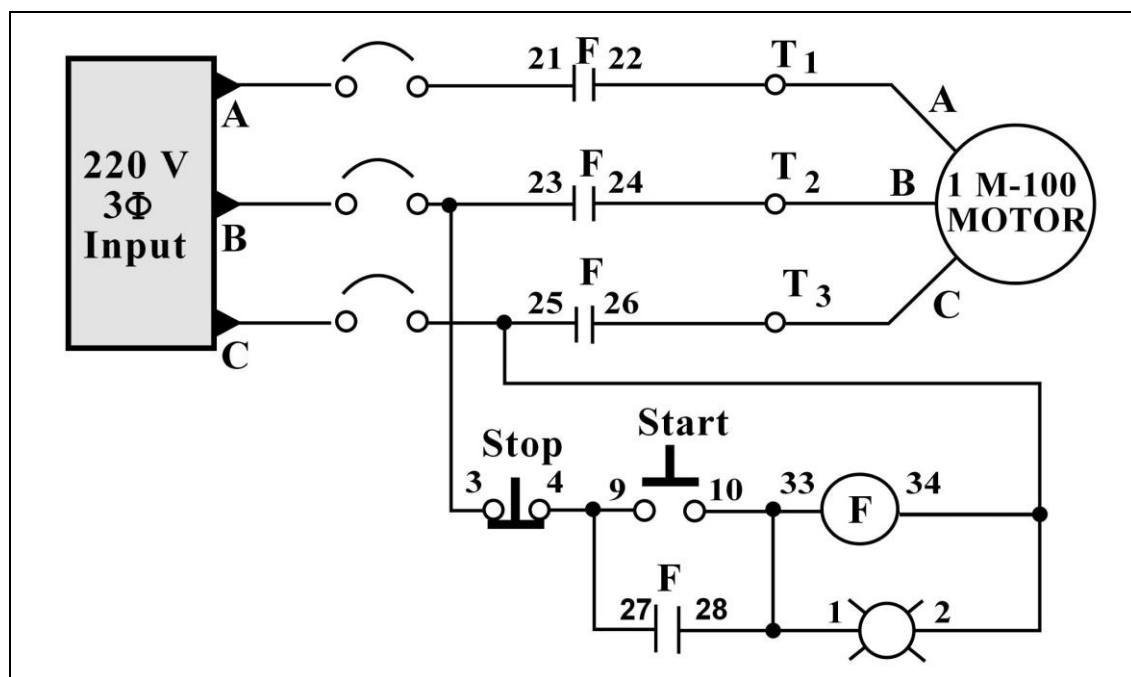

Fig. 2-1 Wiring Diagram for Full Voltage Starter without Overloads
1. Wire the circuit shown in Fig. 2-1.